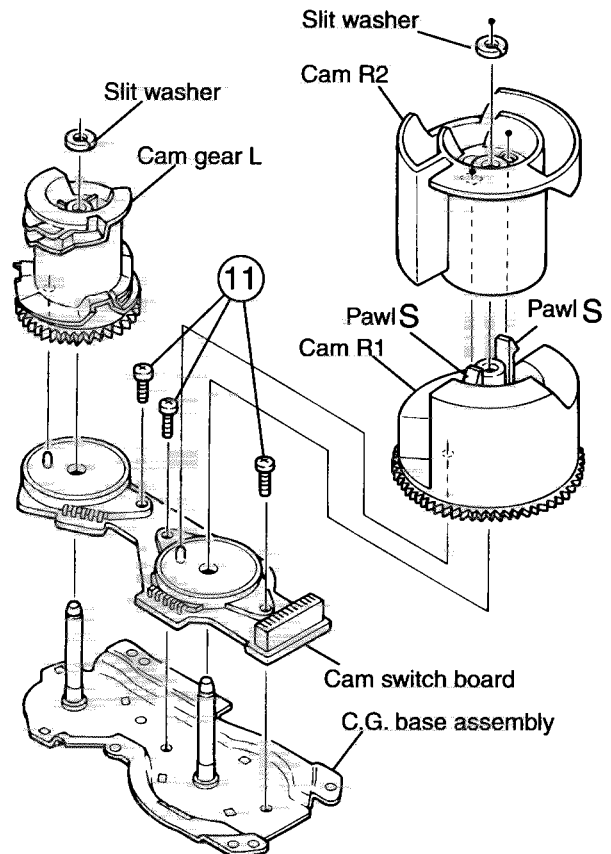

Fig.22
■ Removing the cams R1/R2 assembly and cam gear L (See Fig.22)
■ Removing the C.G. base assembly (See Fig.22 and 23)